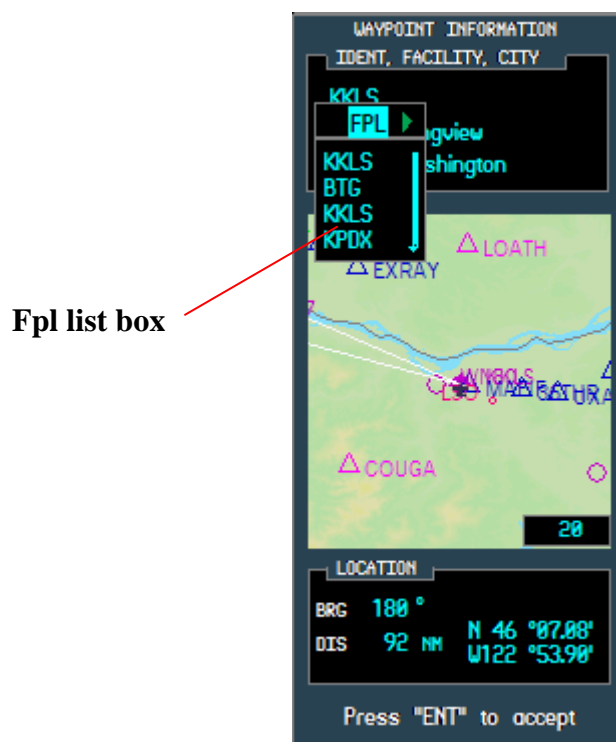

Figure 7.6
5.1 click on the left small FMS knob to display the Waypoint Information window, and a popup box listing the WPTs of the FPL (Figure 7.6).
6.1 click on the left small FMS knob to display the Waypoint Information window, and a popup box listing the WPTs of the FPL (Figure 7.6).